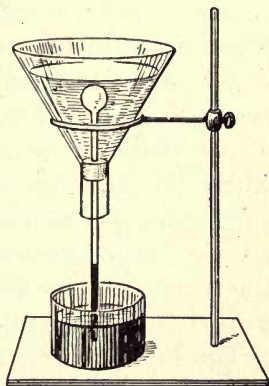

FIG. 122.
**Experiment 45.**—Place the bulb of an air thermometer a fraction of an inch below the surface of the water in a funnel arranged as in Figure 122. Now pour some ether on the water and set it on fire. Hardly any change in temperature will be indicated by the air thermometer.